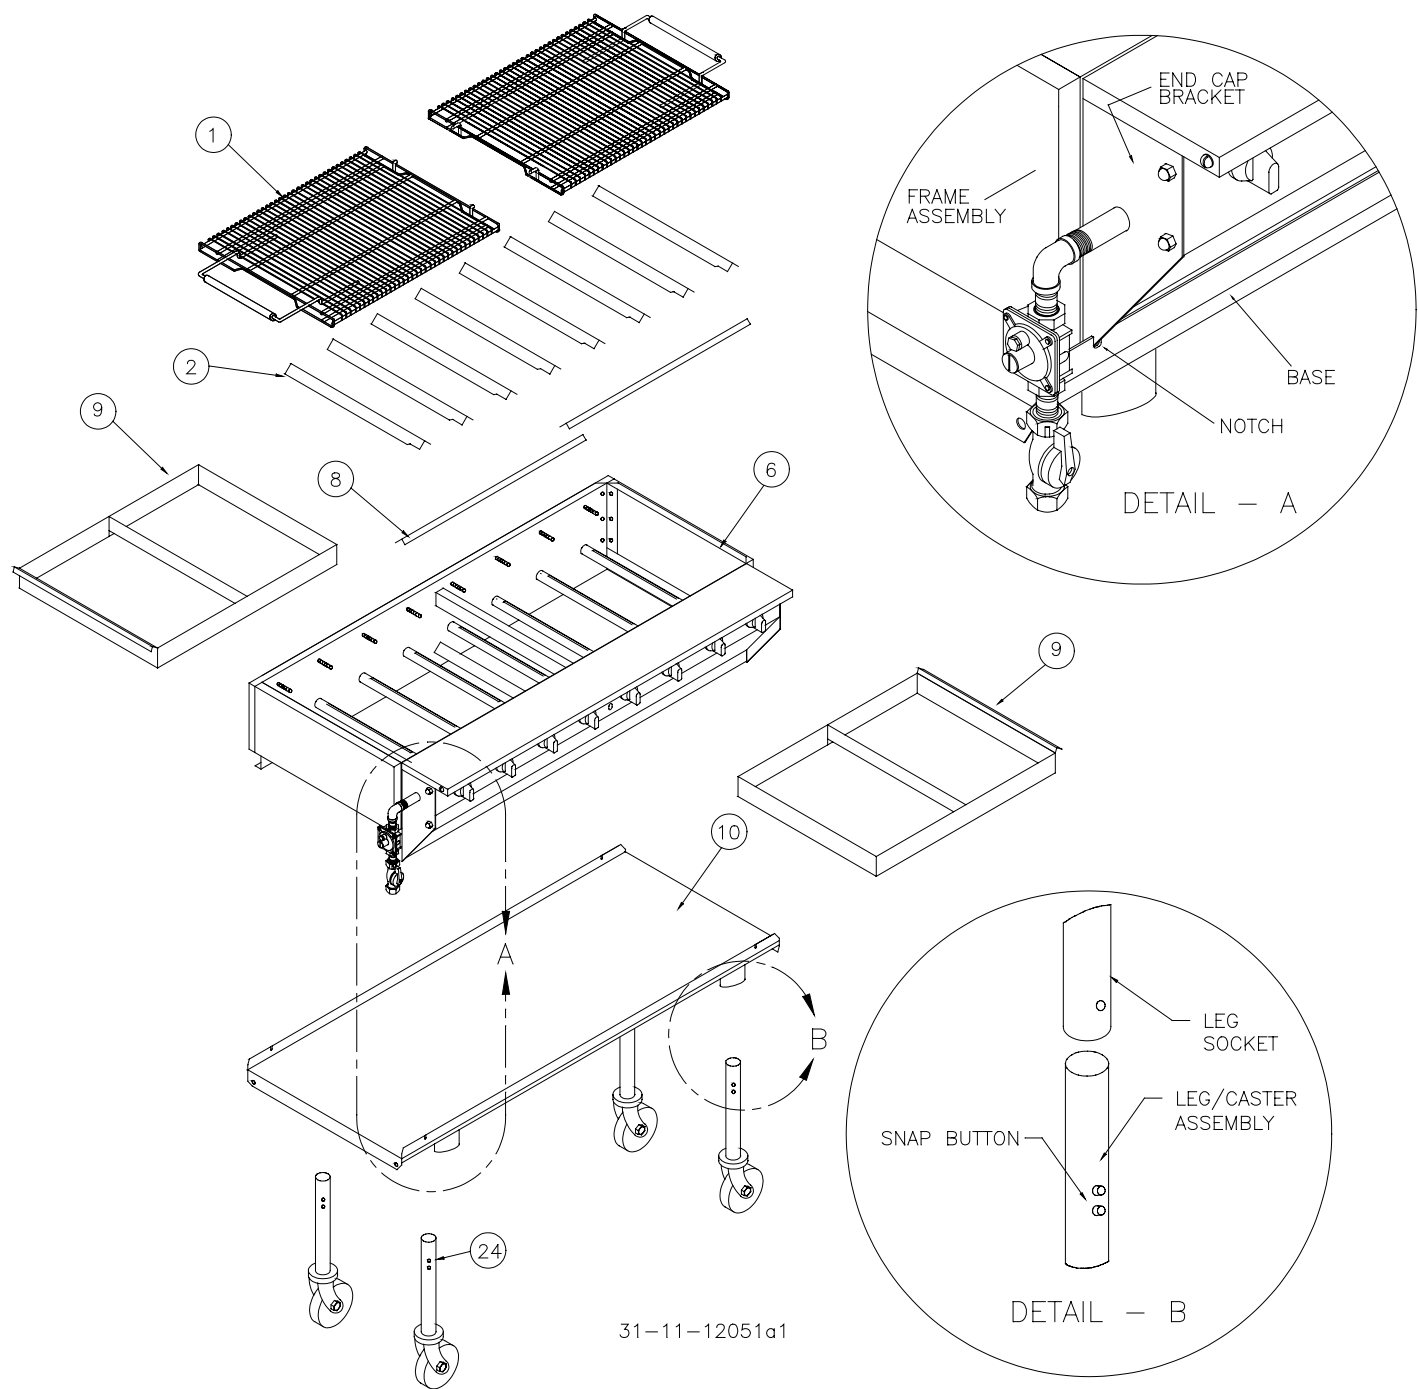

Figure 1
These unassembled parts should be included in your charbroiler package, (Figure 1, Page 5):
- Install the main valve and regulator piping assembly (C in Figure 1).